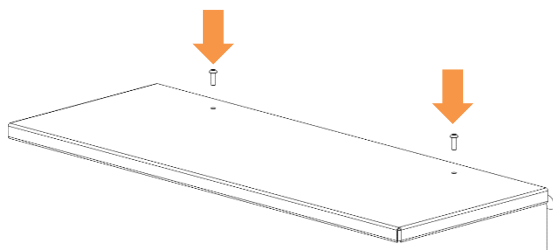
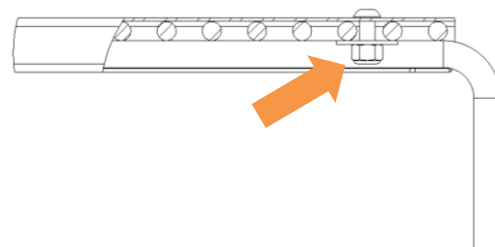

FIGURE 2
FIGURE 3
3. Insert a ¼ - 20 X ¾ Stainless Button Head Cap Screw into each pre-drilled hole. (FIGURE 2) The screw will locate between the wires on the shelf. (FIGURE 3)
4. Attach a **Fender Washer** and ¼ - 20 Lock Nut to each screw. Tighten until the end of the screw is flush with the fastener. **CAUTION:** Over tightening the screw can damage the shelf cover! (FIGURE 3)